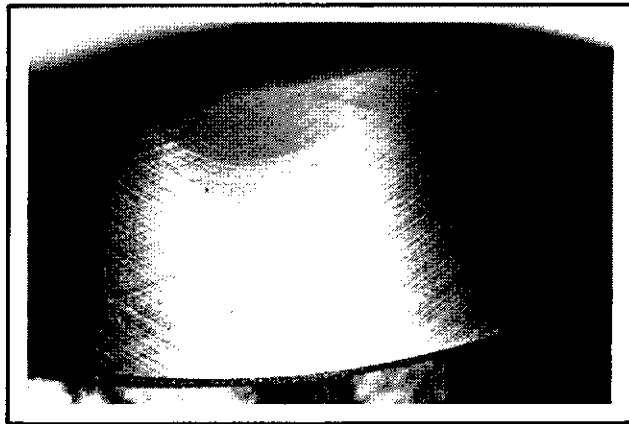

Figure 11-2. Cylinder Bore Crosshatch After Honing.
3. When bore is within .0025" of desired size, remove coarse stones and replace with burnishing stones. Continue with burnishing stones until within .0005" of desired size and then use finish stones (220-280 grit) and polish to final size. A crosshatch should be observed if honing is done correctly. The crosshatch should intersect at approximately 23-33° off the horizontal. Too flat an angle could cause the rings to skip and wear excessively, too high an angle will result in high oil consumption (see Figure 11-2).